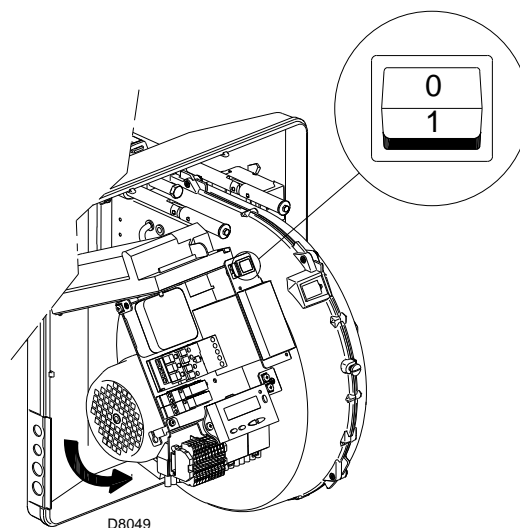

Fig. 31
Close the thermostats/pressure switches and turn the switch of Fig. 31 to position "1".
As soon as the burner starts up, go in front of the cooling fan of the fan motor and check it is rotating anticlockwise. See Fig. 31.
- place the switch of Fig. 31 in position "0" and wait for the control box to carry out the switch-off phase;
The burner is in the heat request waiting mode, or the selector "0-1" (Fig. 31 at page 31) is in the "0" position.